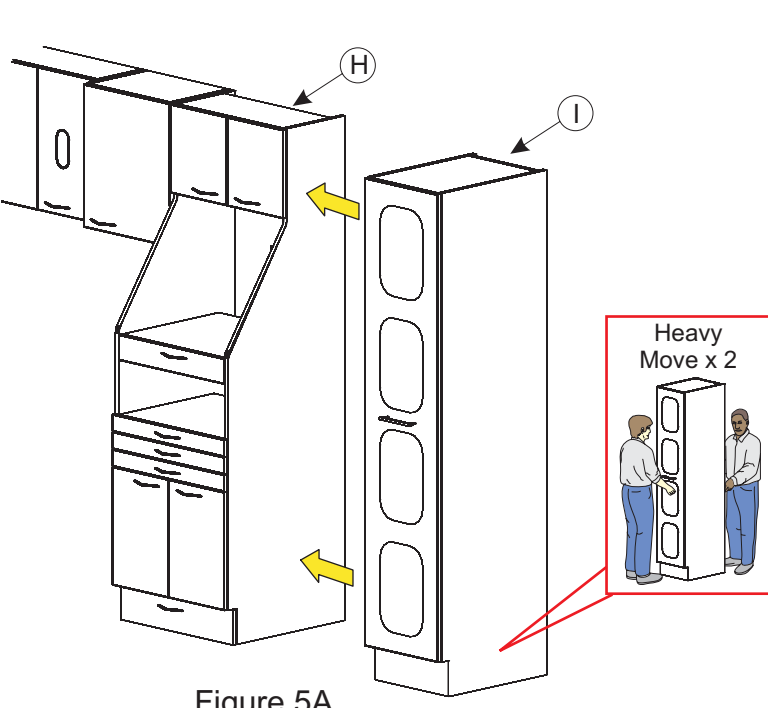

Figure 5A
Move Tall Tower Storage Cabinet (I) into position flush against the wall and against the last Sterilization Cabinet (H) (see Figure 5A). Plug the interior lamps into a floor outlet **controlled by customer supplied light switch** through the access hole at the bottom rear corner of the Tall Tower Storage Cabinet (I). Make sure the cabinet is flush and level (shim if necessary).